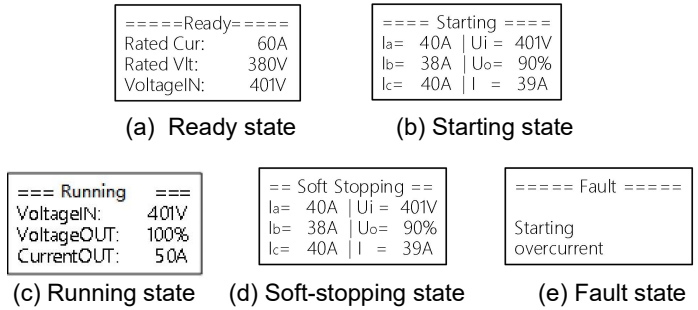

Figure 4.3 Monitoring mode screens
- (1) The status interface in the ready state (that is, no fault when powered on and not started), as shown in Figure 4.3 (a);
- (2) The status interface during startup, as shown in Figure 4.3(b);
- (3) The status interface during start-up and normal operation, as shown in Figure 4.3(c);
- (4) The status interface during soft shutdown, as shown in Figure 4.3(d);
- (5) The status interface at the time of failure, as shown in Figure 4.3(e);